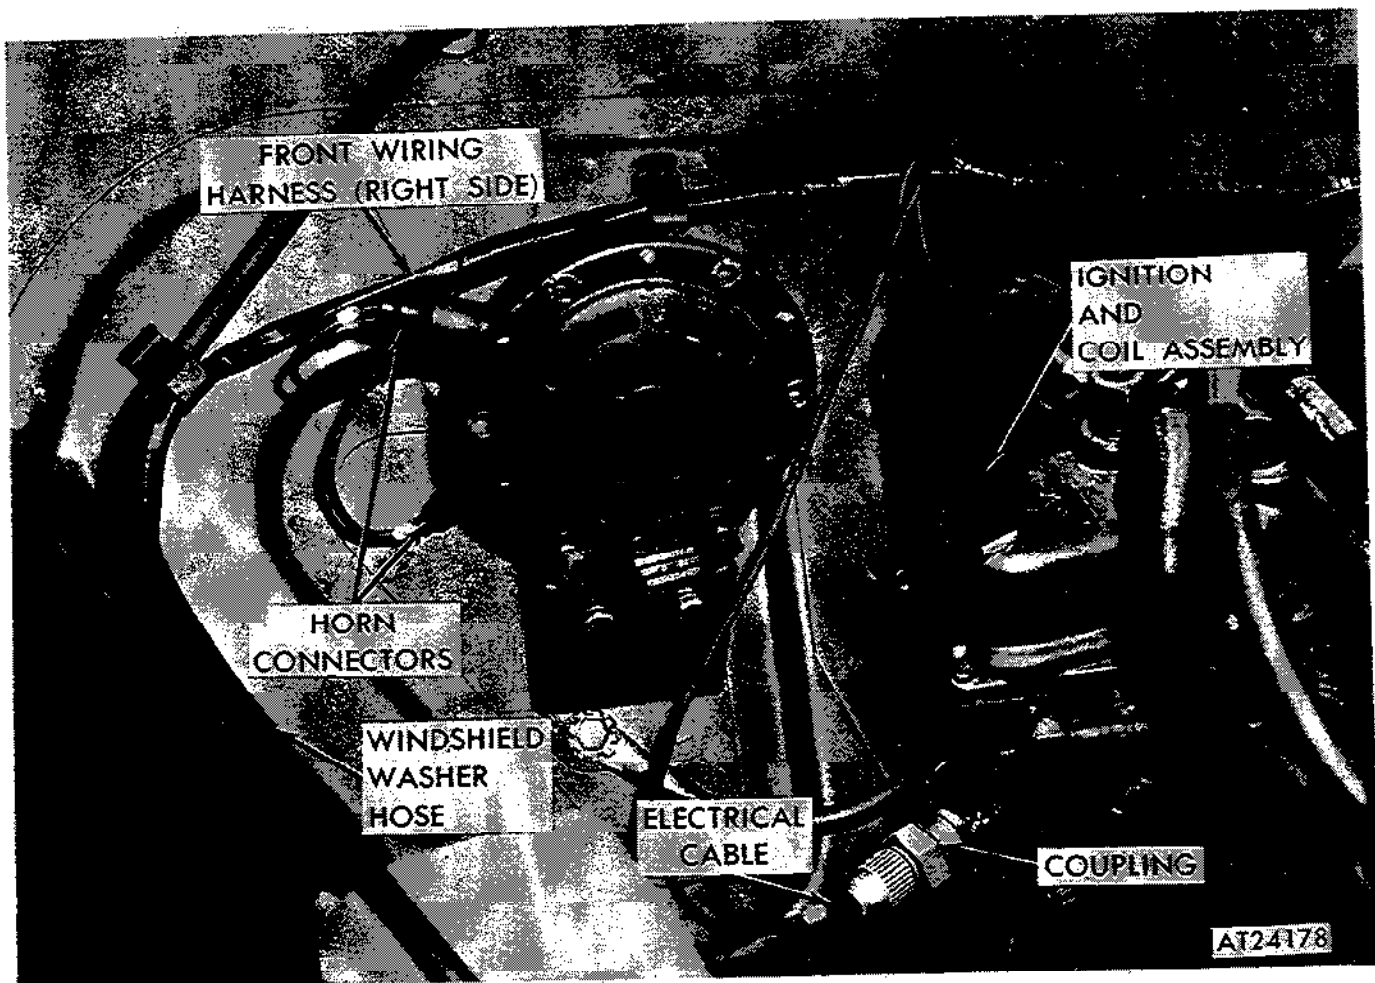

Figure 2-247. Removing or installing right side of front harness assembly on M151A2, M825, and M718A1 vehicles.
(10) Unscrew cable coupling from distributor and ignition coil assembly (fig. 2-247). Separate coupling from cable.
(12) Disconnect the two connectors at horn assembly (fig. 2-247).
(13) Remove windshield washer hose from the one corner clip so right side of wiring harness can be removed from all five clips (fig. 2-247) in engine compartment.